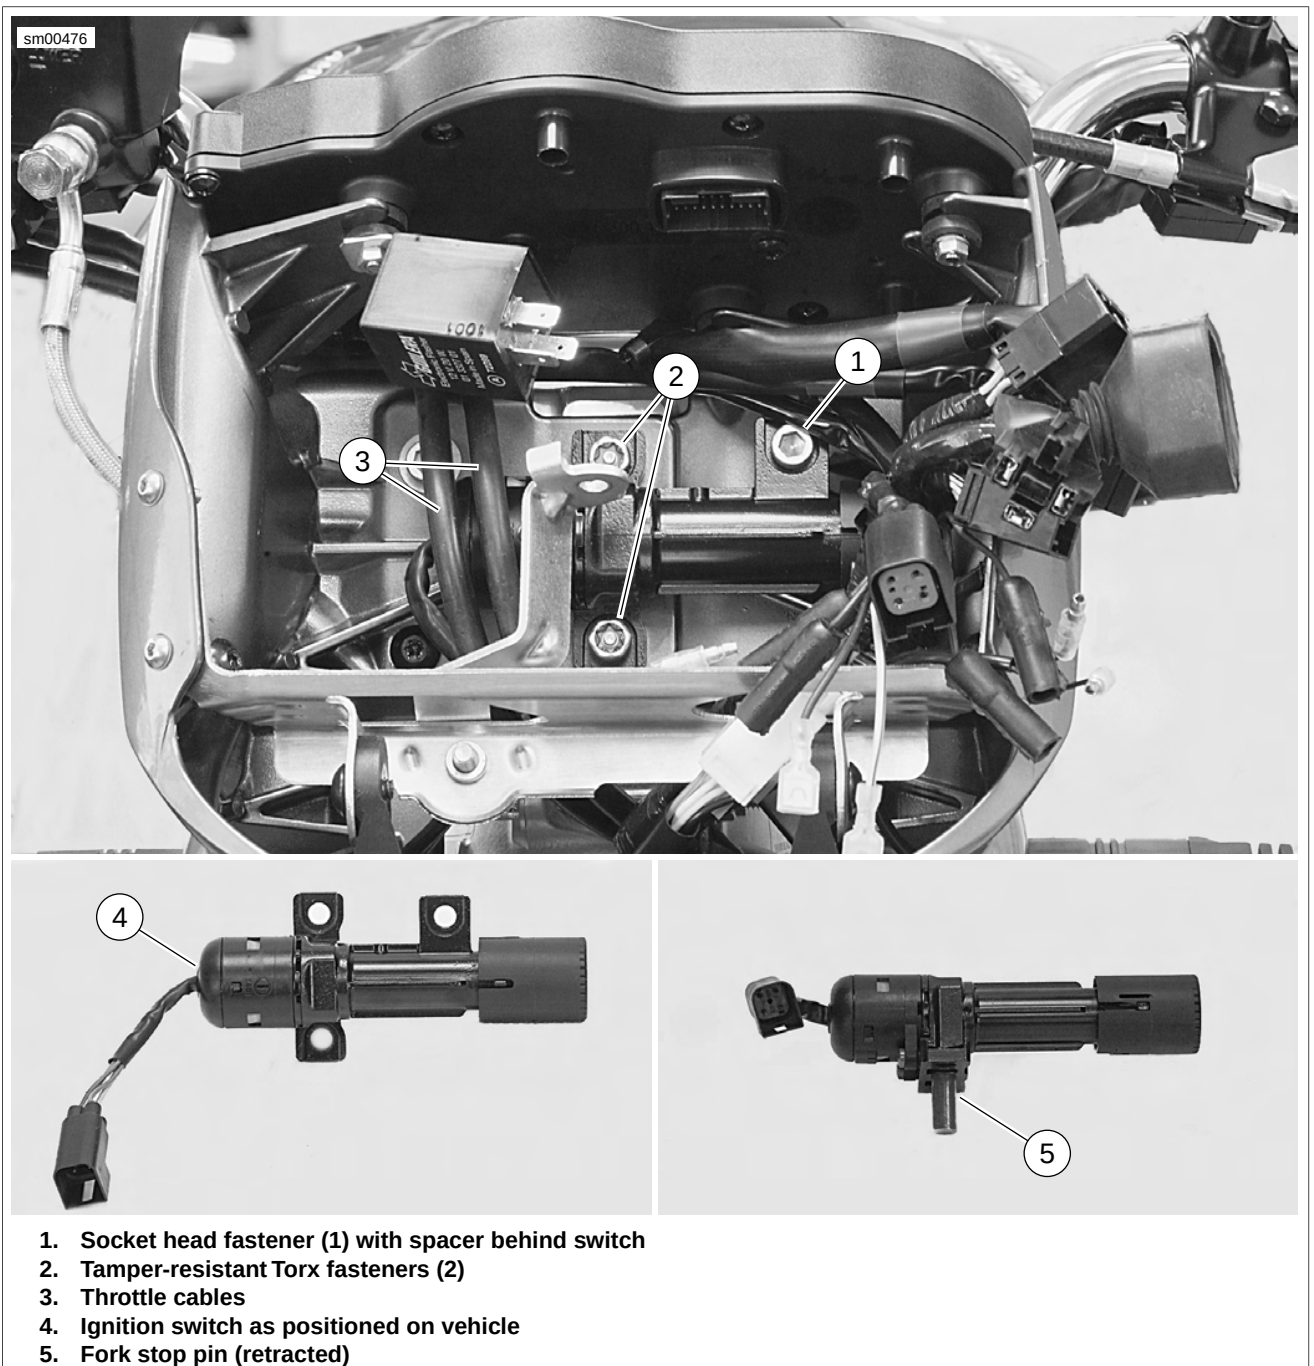

Figure 7-8. Ignition Switch: Lightning (Typical)
| 7. See Figure 7-8 . Use SNAP-ON TAMPER RESISTANT T45 TORX DRIVER (Part No. FTXR45E) to remove the two tamper-resistant Torx fasteners (2) securing ignition switch to upper fork clamp. | 9. While holding the throttle cables (3) to your left (the right side of the vehicle), pull the ignition switch (4) toward you and roll the assembly away from you until the fork stop pin (5) is pointing down. |
- See Figure 7-8. While holding the throttle cables (3) to your left (the right side of the vehicle), slide the ignition switch assembly in to your right (the left side of the vehicle).
- Install the ignition switch (4) with the fork stop pin (5) pointing down and, once in place, roll the assembly toward you and insert the fork stop pin into the upper triple clamp.